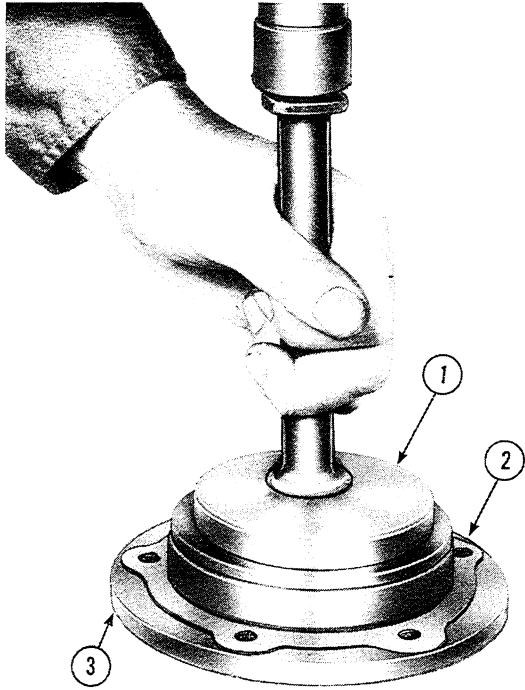

Figure 24
4. Examine the output shaft bearing retainer (3), Figure 24, and shims for damage or distortion. Install a new retainer or shims if necessary. Inspect the output shaft bearing cup for excessive wear or damage. Install a new cup, if needed, using Tool Number 630-17 as shown in Figure 24.